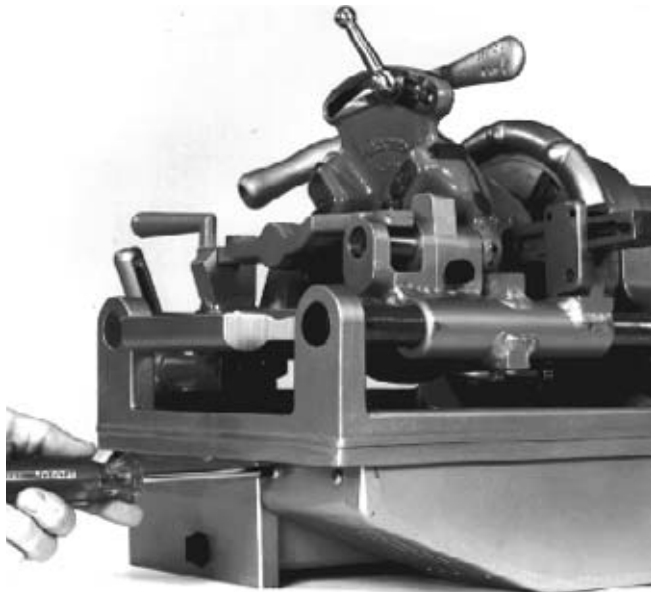

Figure 14 – Loosen and Remove Motor Cover Screws
2. Fully loosen three screws that hold motor housing cover in place and remove motor housing cover. (Figure 14)